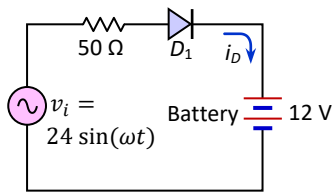

Fig.3-100: Battery charging circuit for Exercise 8
8. Fig.3-100 shows a (12 V) battery charging circuit. v_i is a sinusoidal voltage with 24 V peak amplitude. Find the portion of each cycle during which the diode conducts and the battery gets charge. Also, find the peak value of the diode current and the maximum reverse-bias voltage that appears across the diode. Assume the internal resistance of the battery and source is zero.